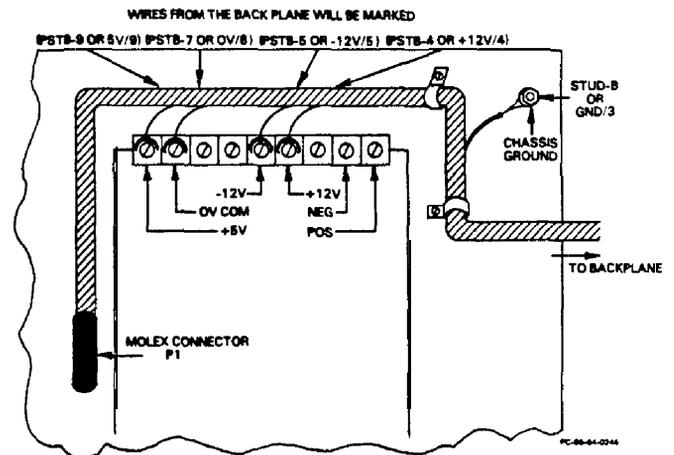
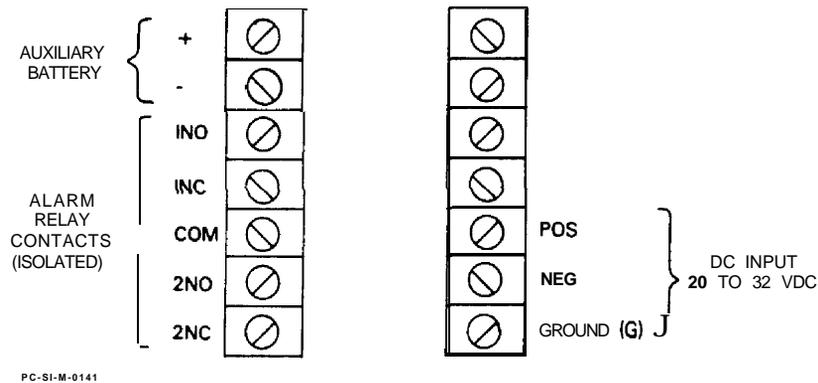

FIGURE 3.
FIGURE 4. FRONT-PANEL TERMINAL BLOCK
- ① Internal Terminal Strip (Refer to Figure 3)
- ② Chassis Ground Terminal
- ③ 18-Pin Connector: Connects signal cable from rack backplane
- ④ Front-Panel Connector Block (Refer to Figure 4)
- ⑤ Power Switch/Fuse
- ⑥ CPU RUN/STOP Key Switch
- ⑦ MEMORY PROTECT Key Switch
- ⑧ POWER Light
10. Take the replacement power supply and attach the wires as shown in Figure 3. Be sure to connect the 18-pin moLex connector (P 1) to the power supply.
12. Remove the plastic cover on the lower portion of the power supply and attach the DC wire, as well as the battery and alarm wires, as they were on the original supply (Refer to Step 6 and Figure 4). Replace the plastic cover.
15. If the POWER light does not come on, the power supply may be bad, source voltage may not be turned on, or there may be other problems within the rack. Please call the Programmable Control Service Center EMERGENCY SERVICE NUMBER (804) 978-5747 for assistance.